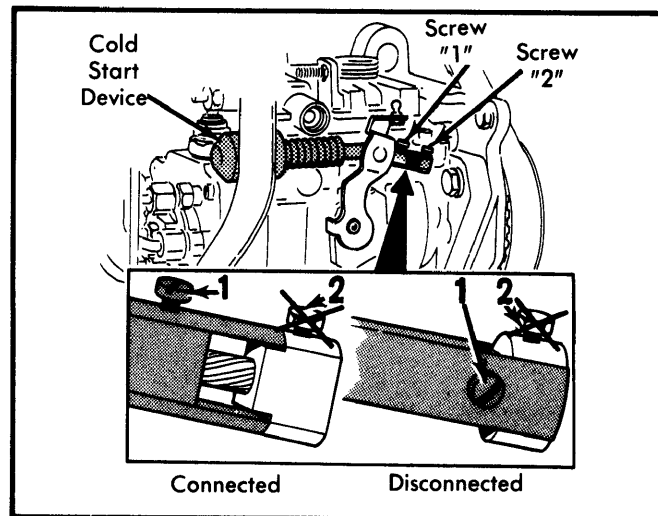
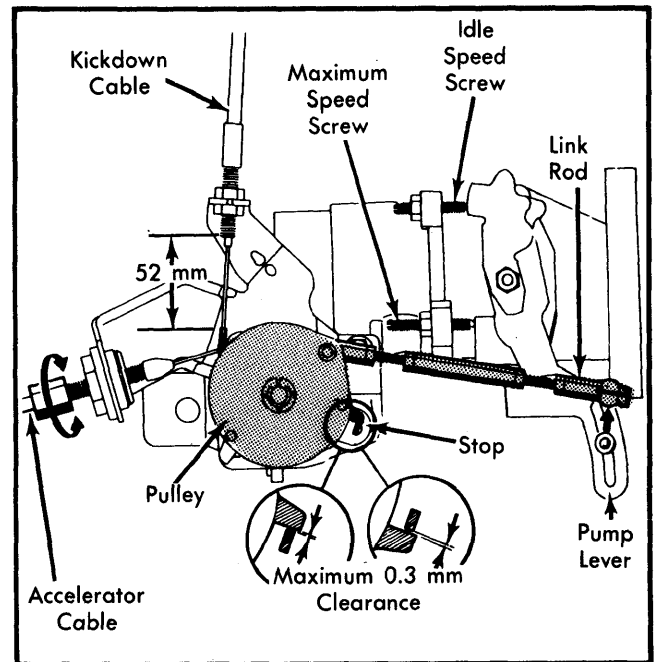

Fig. 10 Disconnecting and Connecting Cold Start Device
Fig. 12 Adjusting Engine Controls (Volvo Shown)
Volvo – 1) Remove rear timing gear cover. Disconnect cold start device by loosening screw "1", pushing lever forward and rotating it 90°. See Fig. 10. Do NOT touch screw "2". If it is loosened, cold start device must be reset on a test bench.
8) Reconnect cold start device, remembering not to touch screw "2". Push lever forward and turn sleeve 90° and tighten screw "1". See Fig. 10.
1) Disconnect cold start device. See Fig. 10. Disconnect link rod at lever on injection pump. Adjust accelerator cable by turning sheath until cable is stretched, but does not influence pulley position. Pulley should touch idle stop. See Fig. 12.